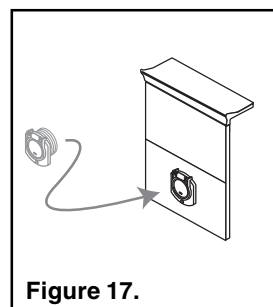

Figure 17.
3. A spring loaded safety cover, (“vac port fitting”), is included with this pool cleaner (see Figure 17). Install it on the dedicated vacuum line to prevent entrapment and injury. For details please refer to the *Vac Port Instruction sheet* included with your vac port fitting. To install the included vac port fitting: